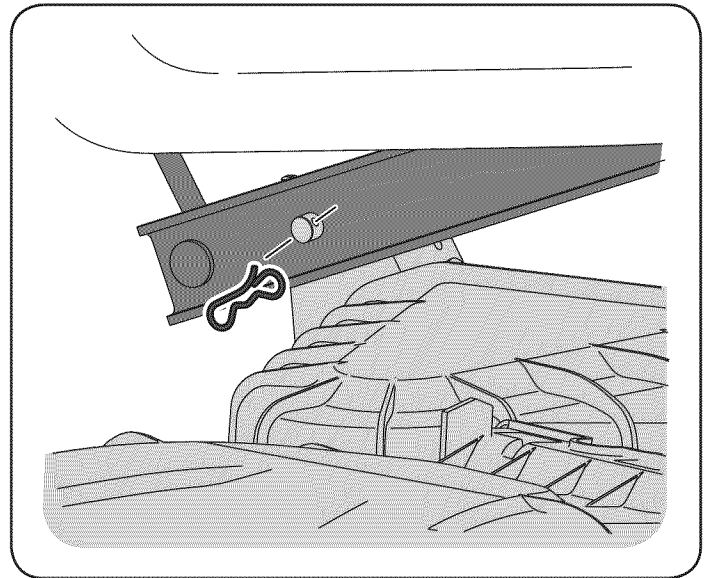

Figure 26
4. Looking at the cutting deck from the left side of the tractor, locate the bow-tie pin on the rear left side of the deck. See Figure 26.
5. Remove the bow pin and slide the deck pin out of the deck lift arm. See Figure 26.